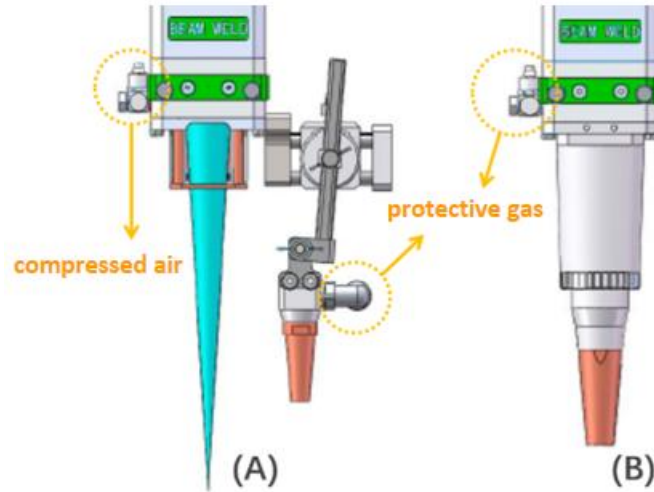

Fig. 2-2 Gas Circuit Connection
Gas circuit connection of side blow assembly and coaxial nozzle assembly are shown in below figure 2-2 (A) & (B).